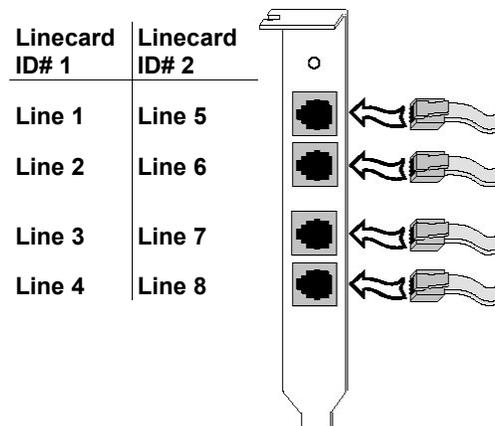

Figure 7. Line assignment scheme for D/41EPCI linecards
With the D/41EPCI linecard(s) installed in the platform, you can now cable the platform to the telephone system. As described in “Assigning the Linecard Identification Number,” OneBox assigns port numbers in ascending order based on the linecard identification number. For example, a D/41EPCI linecard to which you assigned the linecard ID 1 will be assigned line numbers 1–4; a D/41EPCI linecard to which you assigned the linecard ID 2 will be assigned line numbers 5–8 (as shown in Figure 7). Keep this line number assignment scheme in mind when connecting each D/41EPCI linecard to the telephone system.
- Plug the linecords (jacks) from the telephone system to the RJ-11 connectors on the D/41EPCI (refer to the line assignment diagram shown in Figure 7).